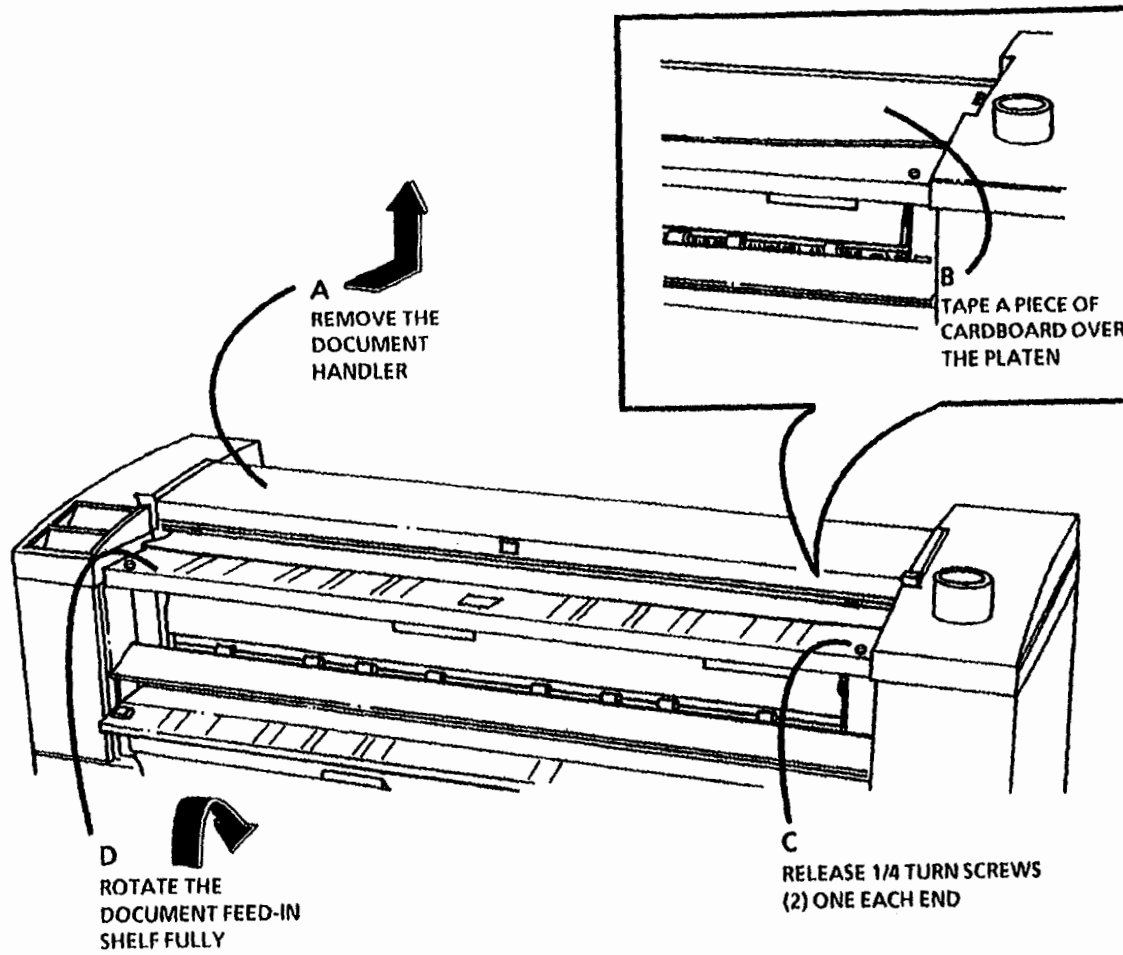

Figure 3. Remove the Document Handler
10. (Figure 3): Remove the Document Handler.